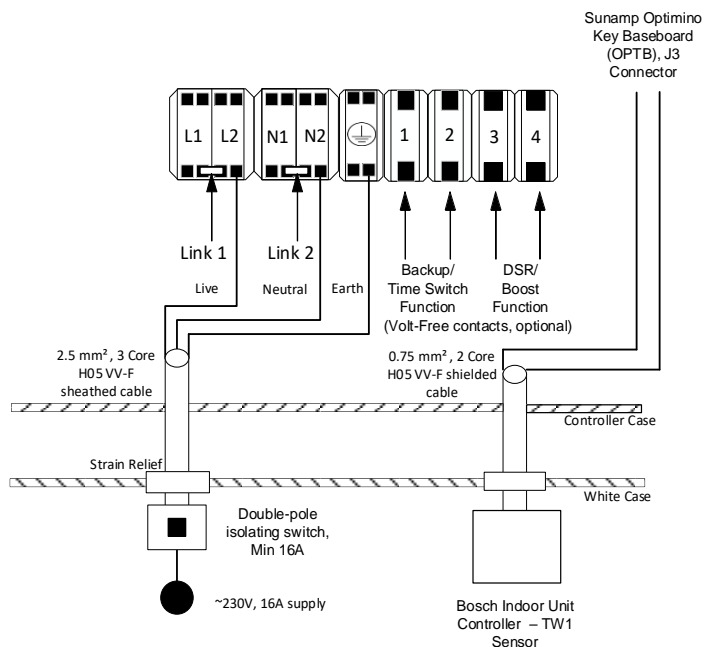

Figure BH.1 - Thermino xPlus with BH01 Optimino key
- Thermino xPlus with the “BH01” & “BH02” Optimino keys (D0084 – Section 6.4.2 for wiring instructions & Figures BH.1 & BH.2 below)
cables in terminals J3 on the Optimino Board; please see Figures BH.1 & BH.2 below for reference.